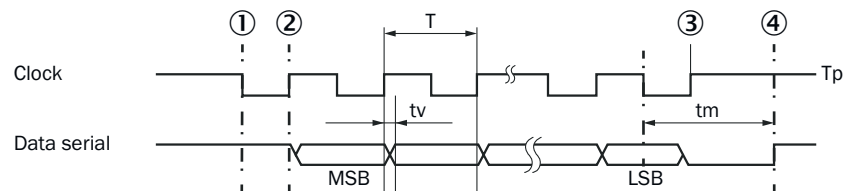

Figure 2: Pulse diagram of data transmission
- At the first high-low edge (time 1 in the pulse diagram – see figure 2, page 5), the position value is loaded into the output register.
- At the first low-high edge (time 2 – see figure 2, page 5), the most significant bit of the position value is transmitted to the SSI master.
- Once the SSI master has received the least significant bit, it interrupts the clock sequence (time 3 – see figure 2, page 5).
- After the time “tm” (time 4 – see figure 2, page 5), new position values are loaded into the output register inside the encoder.